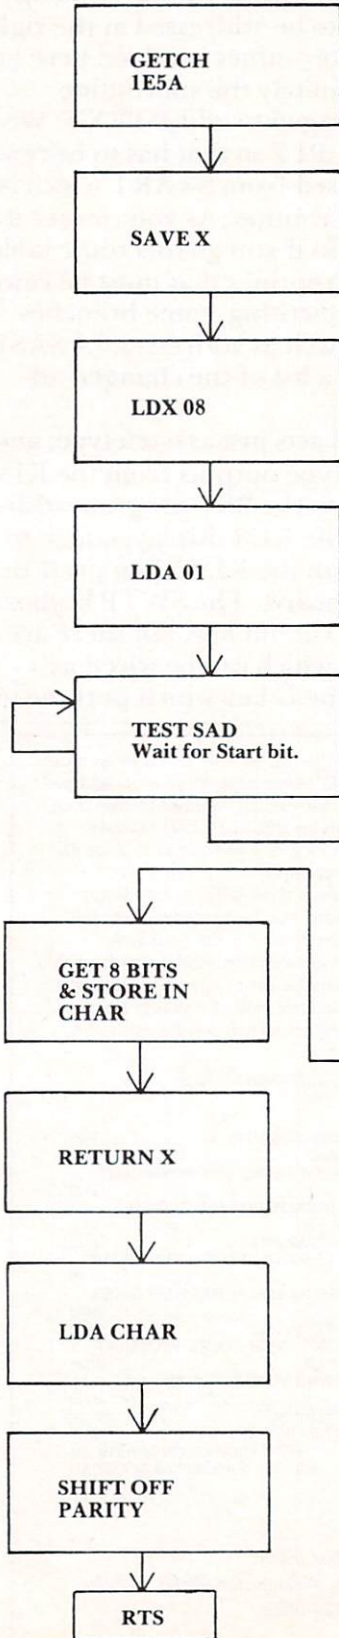
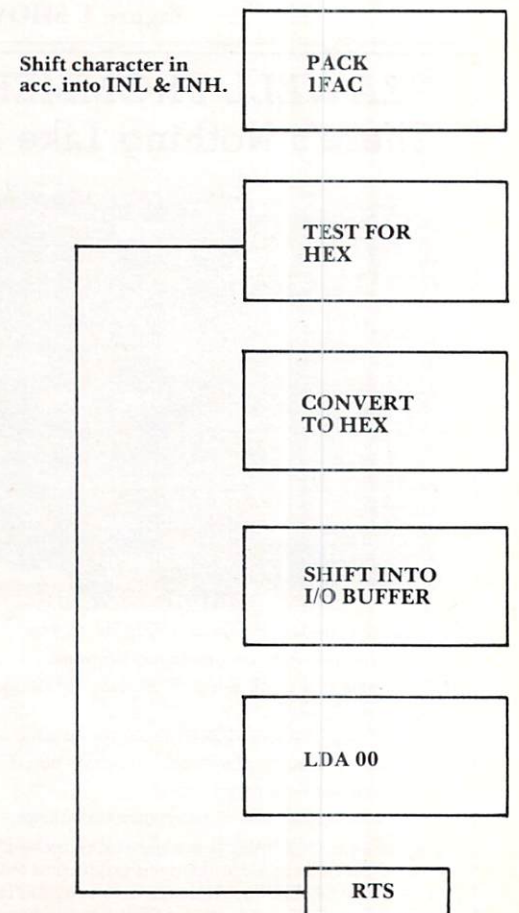
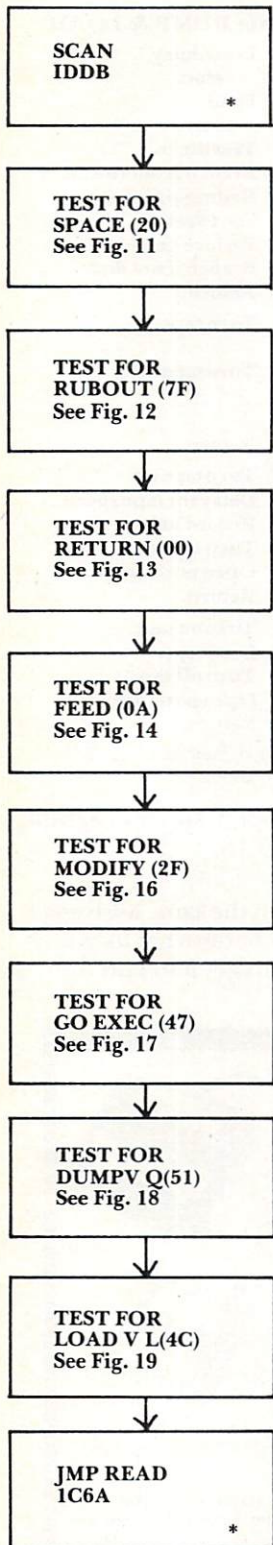

Figure 8. GETCH Subroutine
Figure 9. PACK Subroutine
Figure 10. SCAN Routine
8. CLEAR. The accumulator gets loaded with 00 and is stored in INL & INH. The program tests for a character in GETCH, Fig. 8. In GETCH it stays in a loop waiting for a start bit. After the start bit, the rest of the character is retrieved and loaded into the accumulator, the program then comes back, and we test for KB mode again. If no KB the character is changed into a hex number in PACK, Fig. 9, and then in SCAN, Fig. 10, the program determines if the hex number is an execute key. If not, it will get another character.